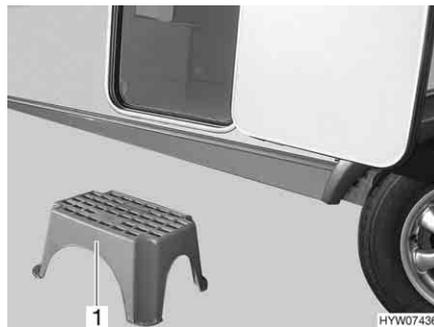

Fig. 25 Entrance step (free-standing)
- Place the entrance step (Fig. 25,1) in front of the entrance to the caravan.